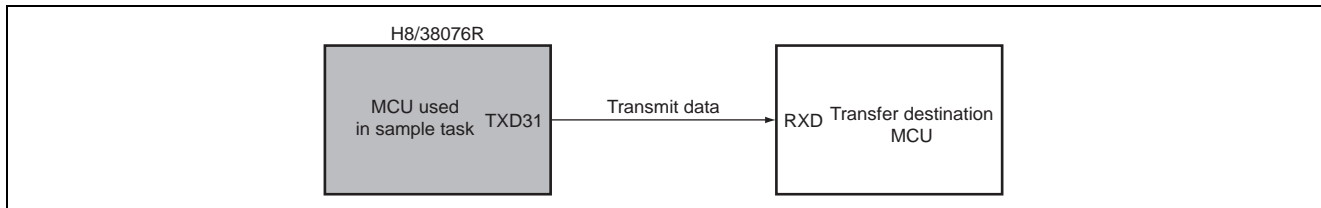

Figure 1 Serial Data Transmission in the Asynchronous Mode
- Figure 1 shows a connection diagram for serial data transmission in the asynchronous mode.